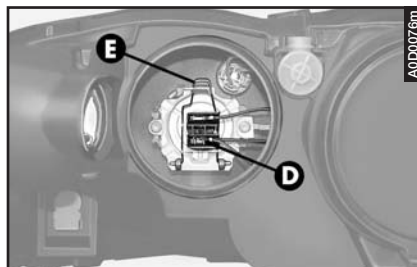

fig. 43
- Disconnect the snap-fitted connector (**D- fig. 43**) and release the clip (**E**).